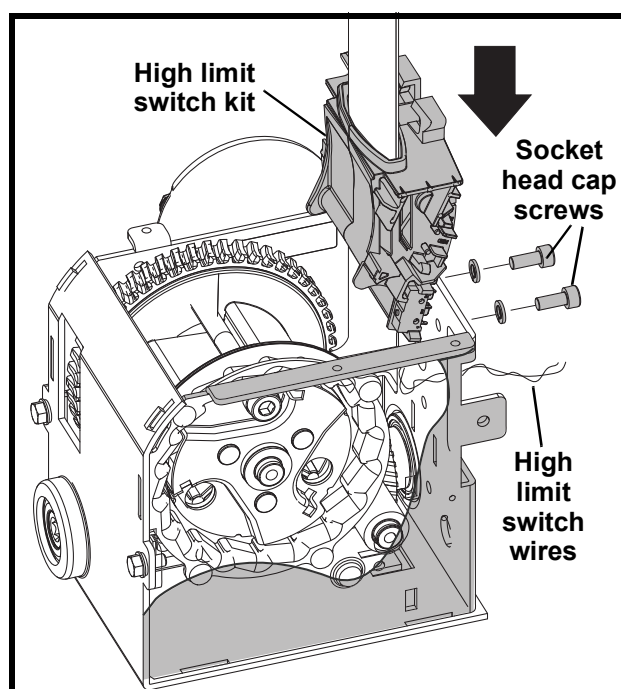

Fig. 27
- 9) Lower the high limit switch kit into place and reinstall the socket head screws (see Fig. 27).